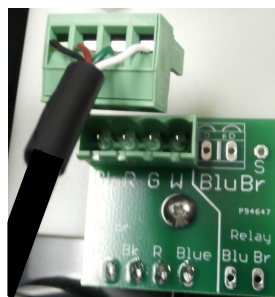

Figure 1.13
7. Follow the wire sequence in **figure 1.13**. *Be careful to ensure that there are no bare wires protruding out from the terminal clamps, to avoid potential shorts. Also make sure you are clamping down on bare wire, and not the insulation of the wire.* The wiring sequence for the EHU is also imprinted on the PCB that the terminal header is mounted on (located inside the EHU), as shown in **figure 1.12**. Pay no attention to the second row of imprinted text, these pins are for use in the manufacturing of the board itself and are of no use to you. **Figure 1.12** shows a blue line crossing out the text in question. The orange circle shows the correct wiring sequence.